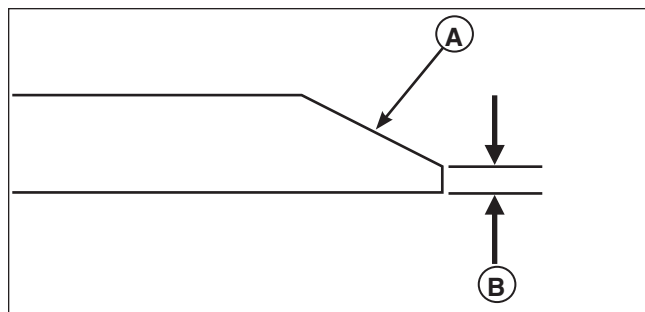

Figure 28. Sharpening the Mower Blade
3. Keep the original bevel (**A**, **Figure 28**) when grinding. DO NOT change the mower blade bevel.